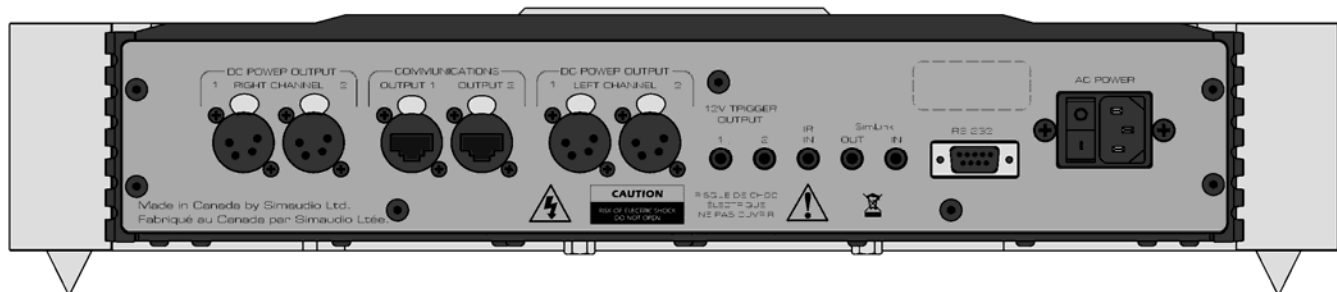

Figure 4: Rear panel of MOON 850P Controller
The rear panel of the **MOON 850P** controller will look similar to Figure 4 (above). It is equipped with full-function bi-directional RS-232 port control and status for custom integration or automation. This is located in the upper-middle section and uses a DB9 connector. Immediately to the right of the RS-232 port are two (2) "SimLink" connectors labeled "in" and "out" on 1/8" mini jacks. Please refer to the next section entitled SimLink for more details. Your **MOON 850P** preamplifier has a 1/8" mini jack input for use with aftermarket infrared remote control receivers. The "IR in" connector is located on the upper right section of the rear panel. Across the lower section you will find the 3 pairs of output connectors that are used for powering the preamplifier chassis. To the right of these connectors are two 12 Volt trigger outputs, each on a 1/8" mini-jack. Finally, on the far right side are the "AC Fuse" socket cover; the power "main switch"; and the "AC Input" IEC receptacle for the power cord. All rear panel connectors have been chosen because they provide the best possible connections for your unit. A poor contact will degrade the signal substantially, and plugs and sockets should all look clean and free of dirt and corrosion. The easiest way to clean them is to remove the cables from their sockets and push them back in again. This procedure requires that your preamplifier and the rest of your components be completely turned off.